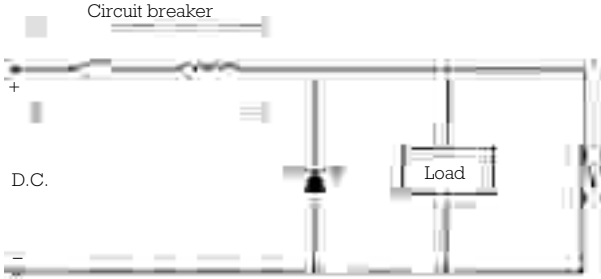

Fig. 16
6.6. Suppression of transients caused by load shorting (Fig. 16)